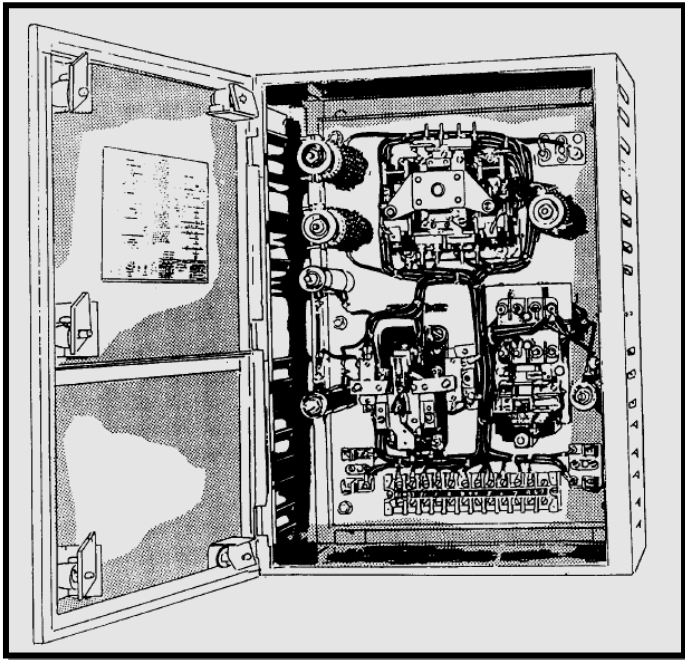
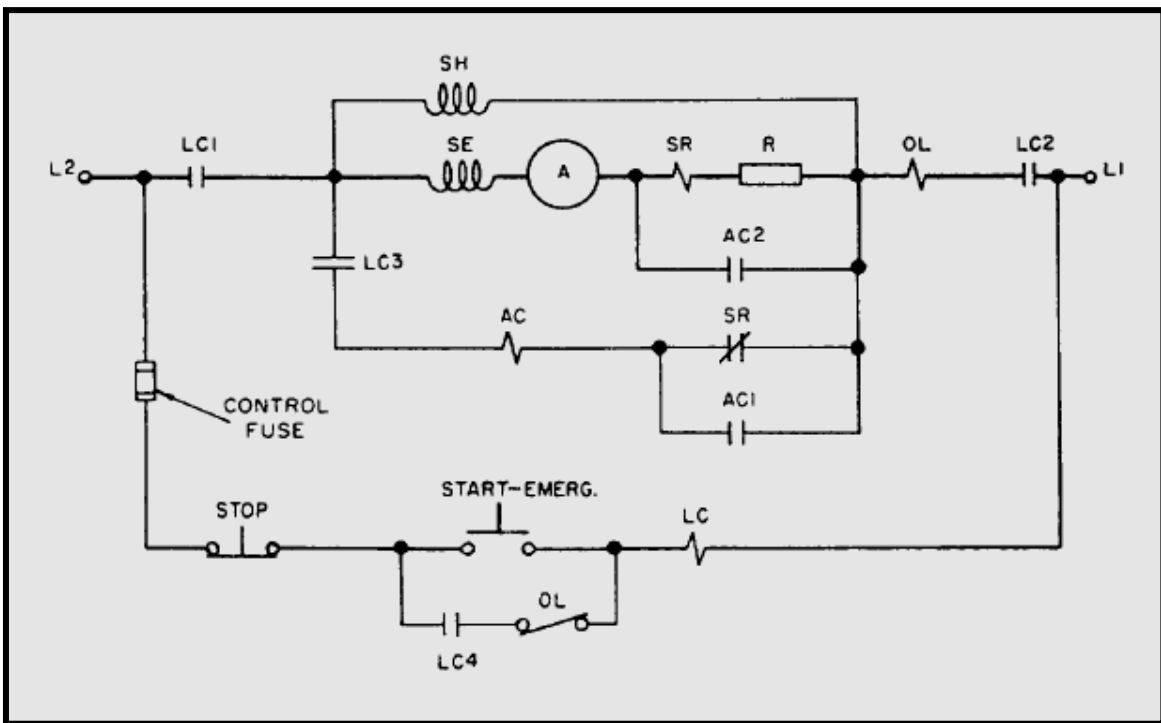

Figure 11-28.— A typical controller.
Figure 11-29.— A dc controller with one stage of acceleration.
Figure 11-28 shows a typical dc controller. The connections for this motor controller with one stage of acceleration are shown in figure 11-29. The letters in parentheses are indicated on the figures. When the start button is pressed, the path for current is from the line terminal (L2) through the control fuse, the stop button, the start button, and the line contactor coil (LC), to the line terminal (L1). Current flowing through the contactor coil causes the armature to pull in and close the line contacts (LC1, LC2, LC3, and LC4).
If the motor becomes overloaded, the excessive current through the overload coil (OL) (at the top right of fig. 11-29) will open the overload contacts (OL) (at the bottom of fig. 11-29), disconnecting the motor from the line.